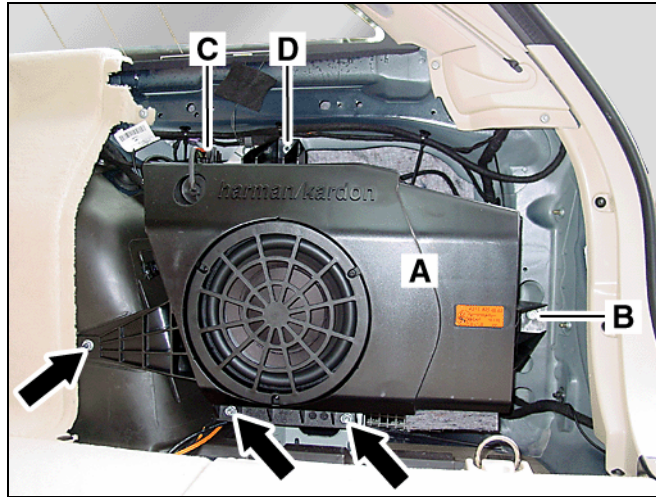

Figure 18
9. Reinstall the harman/kardon® sub-woofer assembly (A, Figure 18).
- a. Reuse the previously removed nuts to secure the bottom and front of the sub-woofer (Arrows, Figure 18).
- b. Secure the rear of the sub-woofer with the previously removed bolt (B, Figure 18).
- c. Reconnect the speaker (C, Figure 18).
- d. Secure the top of the sub-woofer along with the upper arm of the SDARS control module bracket with the previously removed nut (D, Figure 18).